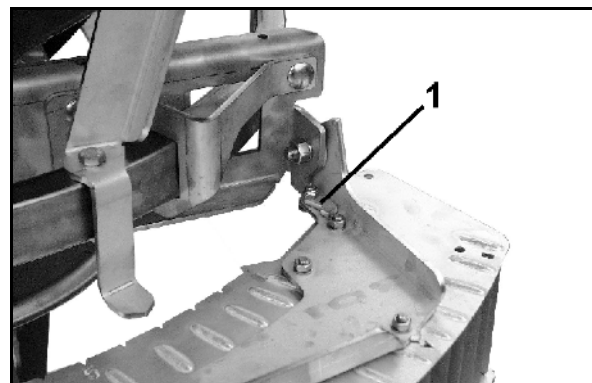

Fig. 77
are set via the telescoping vanes (Fig. 77/1) in accordance with the setting chart depending on the type of fertiliser to be spread and the distance of the first tramline from the field edge:
1. Swivel the telescoping vanes (Fig. 77/1) on the spreading disc after releasing the respective wing nut in the area of the scale (Fig. 77/2). Read off the value at the read-off edge (Fig. 77/3) and retighten the wing nut.
2. Set the vane outer section to a higher letter value (Fig. 77/4) after releasing the nut (Fig. 77/5) on the scale (Fig. 77/6). The respective position of the vane outer section is read off at the read-off edge (Fig. 77/7) on the scale.